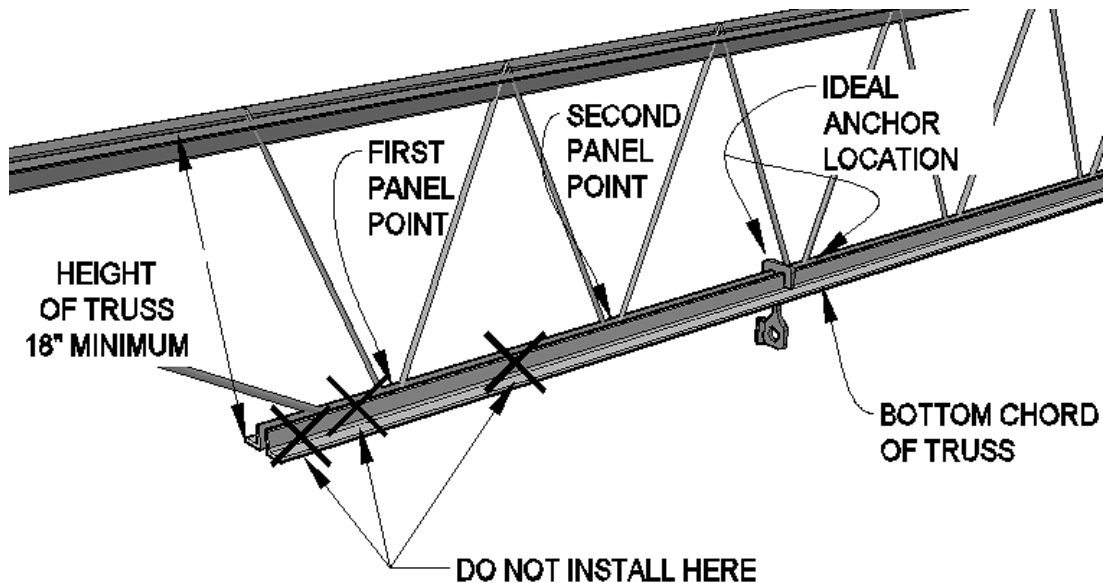

Figure 4 – Anchor Locations
- The span and loading of the truss affects the allowable concentrated load that may be applied to the truss. It must be capable of withstanding a concentrated load of 900 pounds with a safety factor of two (2) for certified anchorages and 5000 pounds for non-certified anchorages.
- Do not attach to a truss that is smaller than 18" in height (See figure 4).